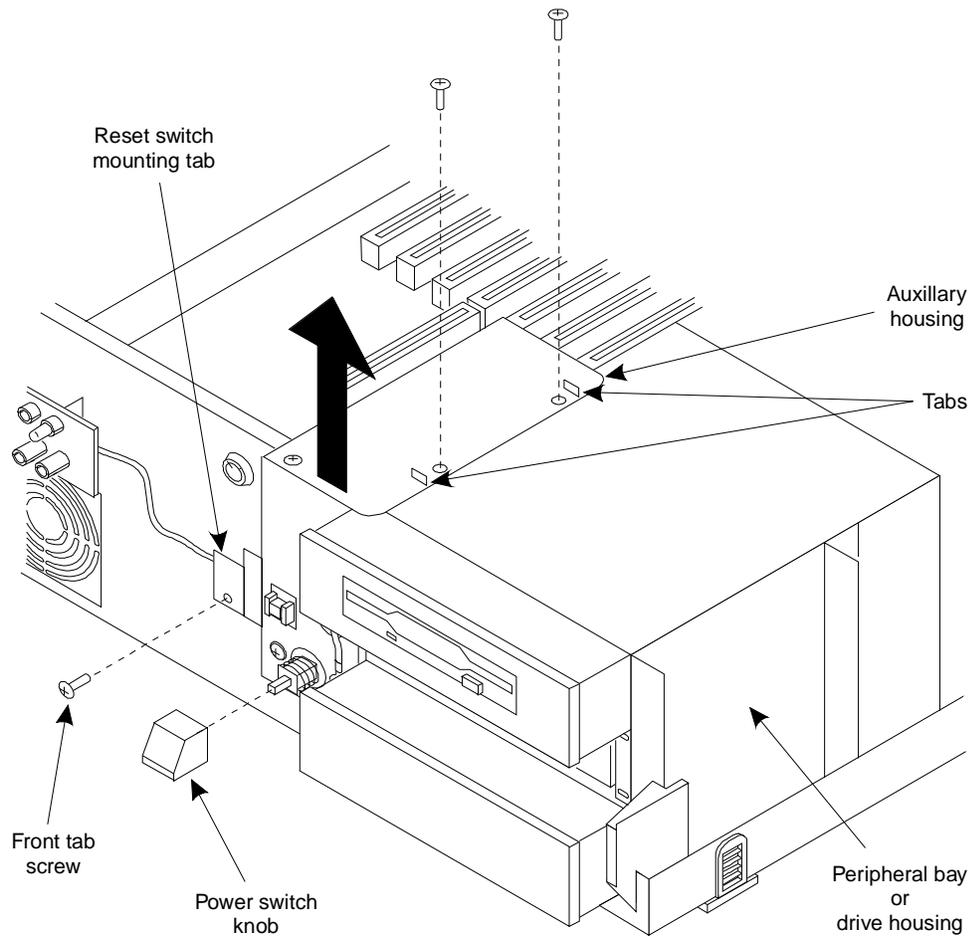

Figure C-4. Removing the Auxiliary Housing
See Figure C-4 for the location of the auxiliary housing. The procedure below assumes that you have shutdown the system, removed power, and removed the front and top covers. For information on how to perform those procedures, refer to Chapter 5, "Getting Inside the Computer". Perform the following steps to remove the housing:
1. Remove the screws at the top and front as shown in Figure C-4.